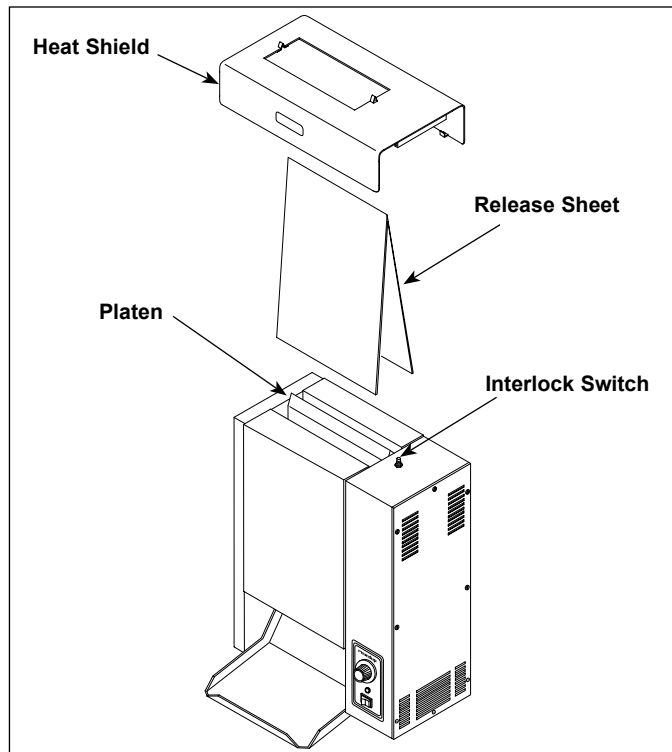

Figure 7. Removing/Installing the Release Sheet
1. Make sure the unit is turned off, the power cord is unplugged, and the unit is cool. Put on heat resistant gloves. Remove the Release Sheet (Figure 7).
7. Install the Release Sheet by draping it over both sides of the Platen with the crease centered directly on the Platen (Figure 7).
8. Install the Heat Shield (Figure 7). The Heat Shield clips fit over the tip of the Platen and retain the Release Sheet in place.
**IMPORTANT:** Make sure the Heat Shield is activating the Conveyor Interlock Safety Switch (see Figure 7). The conveyors will not rotate unless the Heat Shield is in place and Conveyor Interlock Safety Switch is activated.